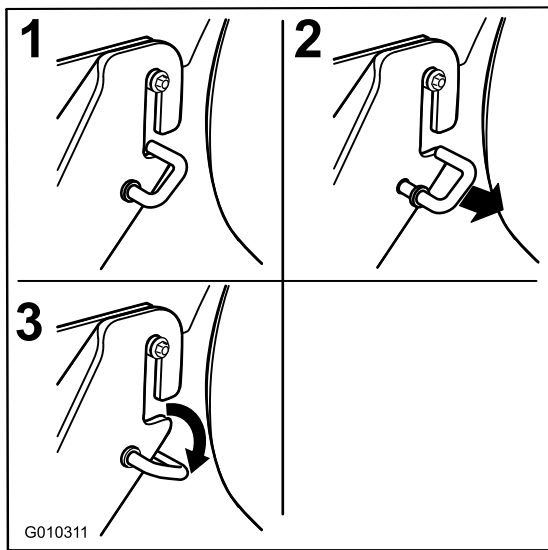

Figure 66
- Move the spring loaded J-hooks out of the slot in the rear hanger brackets on both sides of the deck (Figure 66).